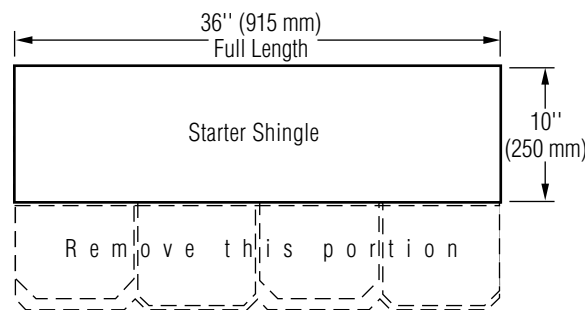

Figure 19-7: Make starter shingles by removing the 8" lower portion.
- When installing Carriage House, the starter course will consist of Carriage House shingles from which the 8" lower portion has been removed. The easiest way to do this is by cutting straight across the length of the shingle just above the top of the cutouts (Figure 19-7).